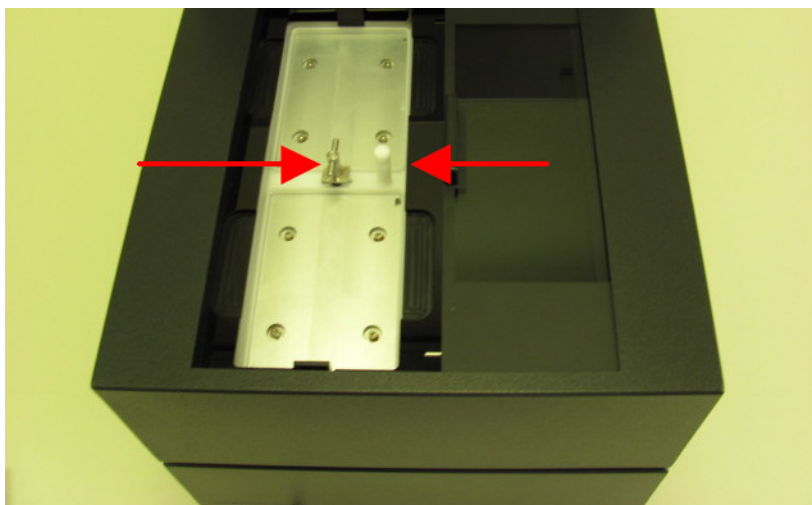

Figure 4-14: Adapter screw (center) and capillary height adjustment plunger (right).
2. Make sure the adapter screw (center) is in the unlocked position (Figure 4-14).